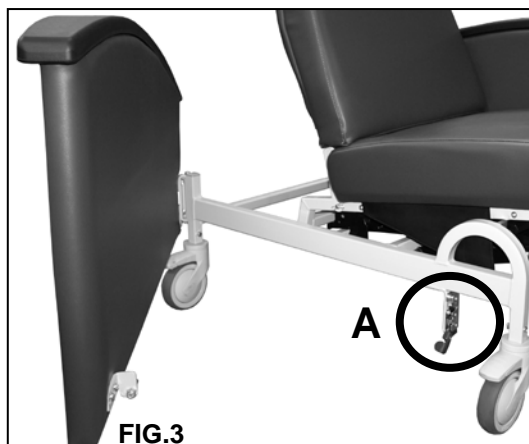

FIG.3
2. To close, push swing-arm toward latch until latch engages. (FIG. 3)